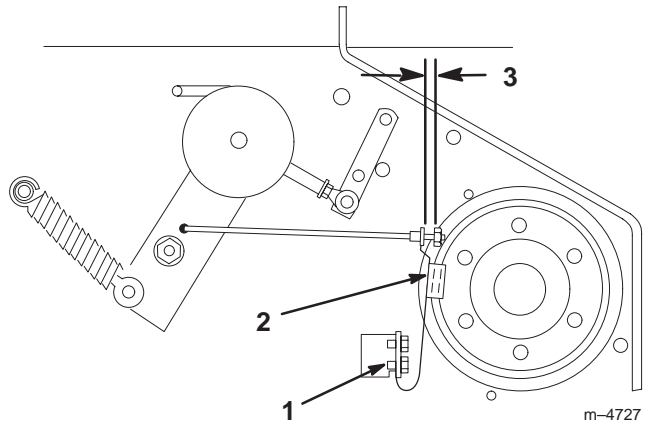

Figure 60
3. If necessary, adjust the spring mounting bolts so that the blade brake pad rubs against the pulley edges (Fig. 60).
4. Adjust the nut at the end of the blade brake rod until there is 1/8-3/16 in. (3-5 mm) between the nut and the spacer (Fig. 60).